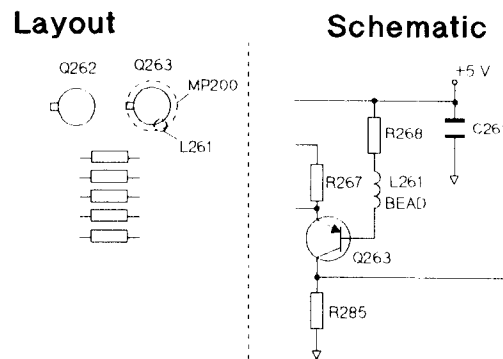

Figure B-10. L261
2. Figure B-10 shows the location of L261 in the circuit and on the main board. Modify Figure 10.4-5 and Figure 10.4-8 accordingly.